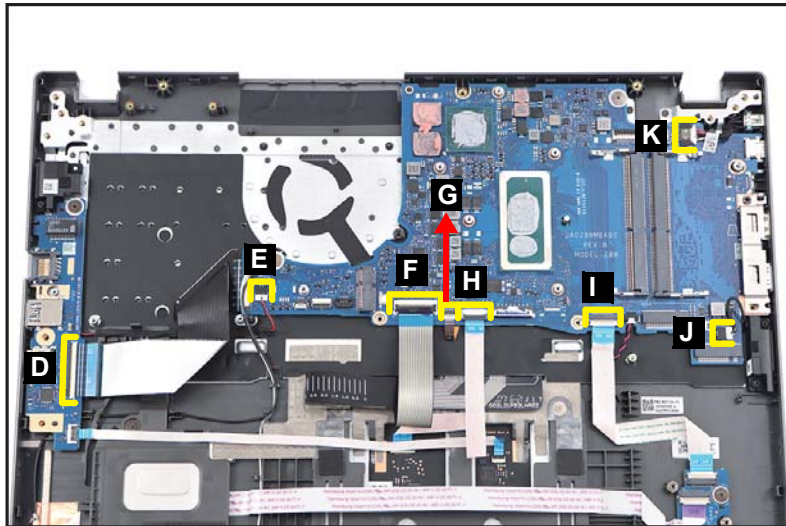

Figure 1-37. Mainboard Removal
3. Disconnect the USB board FFC from the USB board connector (D) (Figure 1-37).
4. Disconnect the right speaker cable from the mainboard connector (E) (Figure 1-37).
5. Disconnect the keyboard FPC from the mainboard connector (F) (Figure 1-37).
6. Disconnect the keyboard backlight FPC from the mainboard connector (G) (Figure 1-37).
7. Disconnect the touchpad FFC from the mainboard connector (H) (Figure 1-37).
8. Disconnect the card reader board FFC from the mainboard connector (I) (Figure 1-37).
9. Disconnect the left speaker cable from the mainboard connector (J) (Figure 1-37).
10. Disconnect the DC-IN cable from the mainboard connector (K) (Figure 1-37).